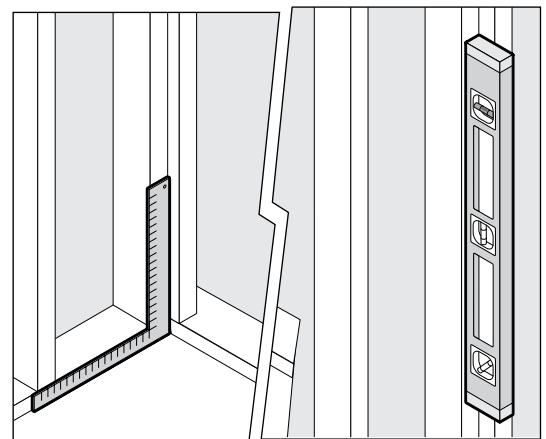

FIGURE 1. Check that studs are plumb with sub-floor/base.
- b. Stud pocket should be constructed as shown on page 1. You may need to cut, move or add studs for shelf placement. Studs must be plumb and square to sub-floor. Sub-floor must be level. (Fig. 1)